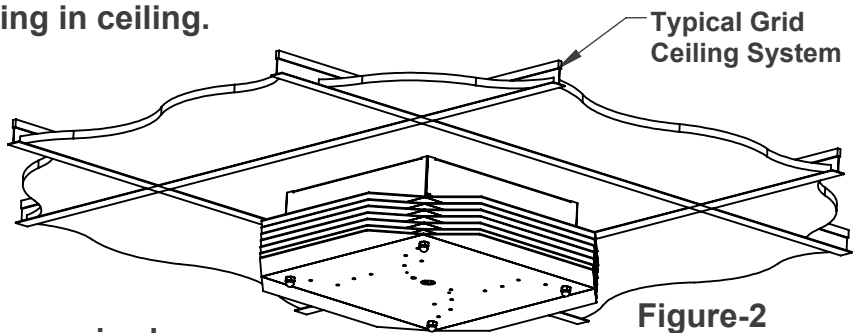

Figure-2
- 2) Place the fixture with ceiling plate in the grid ceiling system. (see Figure-2)